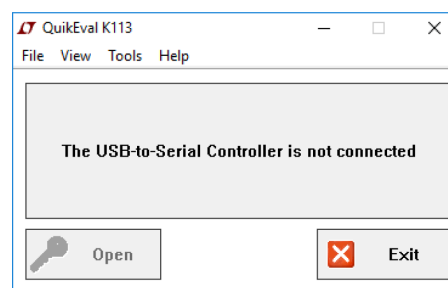
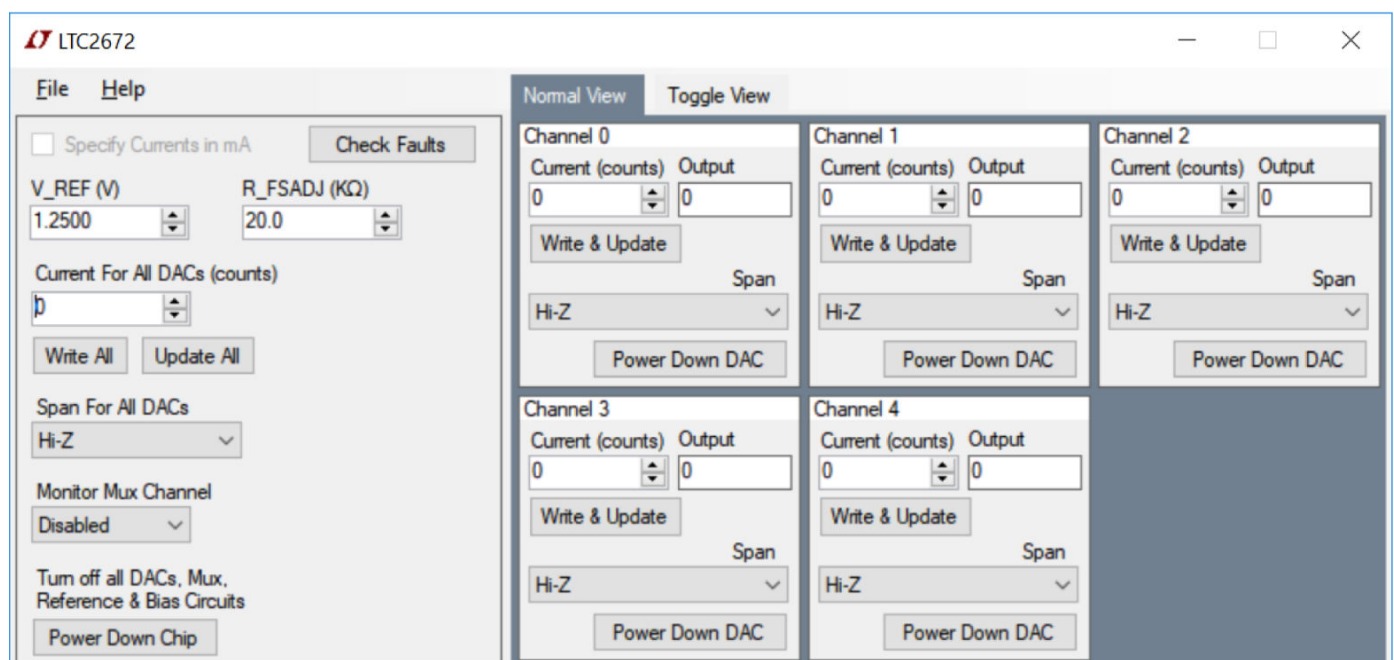

Figure 4. Select Interface Window
Figure 5. QuikEval Evaluation Software Main Window
To start the QuikEval evaluation software, from the **Start** menu, click **Analog Devices > QuikEval**. The software window opens (see Figure 4) until the software recognizes the DC2903A. When the software recognizes the DC2903A, the main software window in Figure 5 opens.
In the main QuikEval evaluation software window (see Figure 5), each channel can be written to individually or all channels can be written to at once as a group. Various settings for the LTC2672 are available in this window, including the range, reference voltage, toggle options, and full-scale adjustment resistor (**R_FSADJ**) settings. The fault register is read and displayed after every data transfer.
The DC2903A uses the LTC2672 internal 20 k Ω resistor to set the full-scale range. If a different resistor is manually populated on R4 of the DC2903A, the resistor value can be changed in the **R_FSADJ (K Ω)** text box (see Figure 5).
Similarly, if a different external reference voltage is used, the resistor value can be changed in the **V_REF (V)** text box (see Figure 5).
To set the output range for all LTC2672 channels at once, use the **Span For All DACs** dropdown menu. To set the output range for individual LTC2672 channels, use the **Span** dropdown menu for each individual channel (see Figure 5).
To set the output current for all LTC2672 channels at once, use the **Current For All DACs (counts)** text box. To set the output current for individual LTC2672 channels, use the **Current (counts)** text box for each individual channel (see Figure 5).